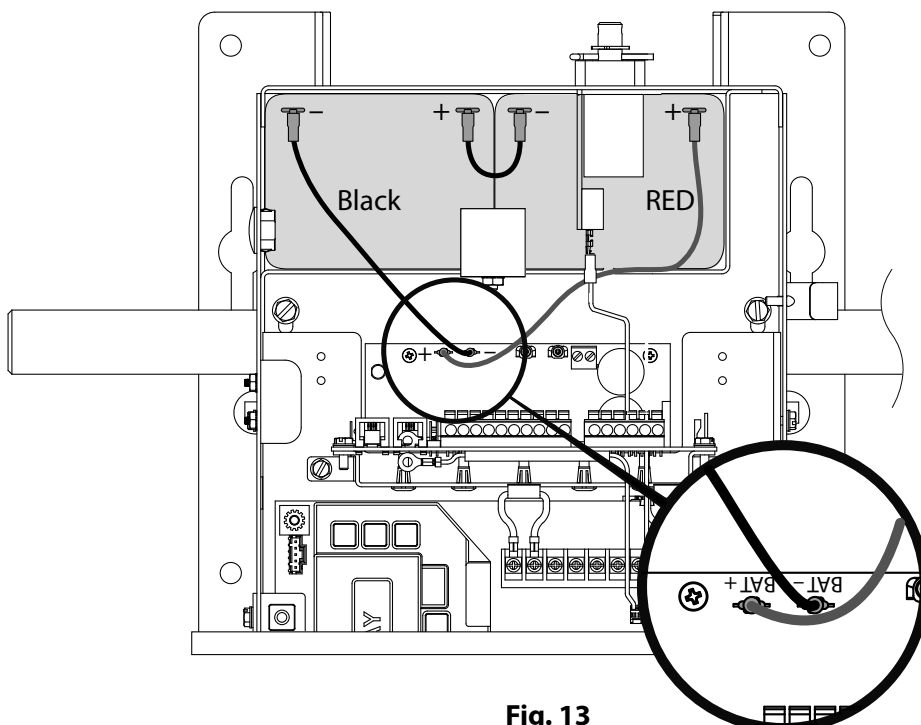

Fig. 13
- 1) Connect the lead - acid batteries, observing illustration for proper wiring. Fig. 13